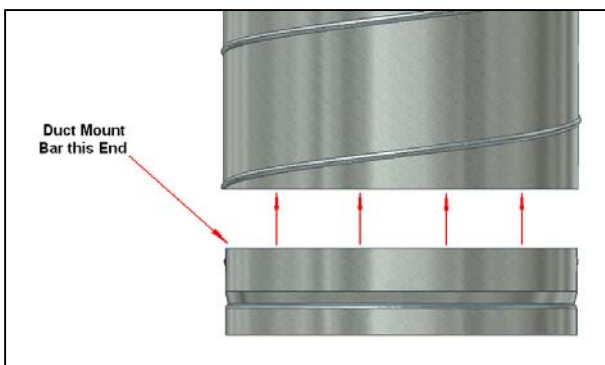
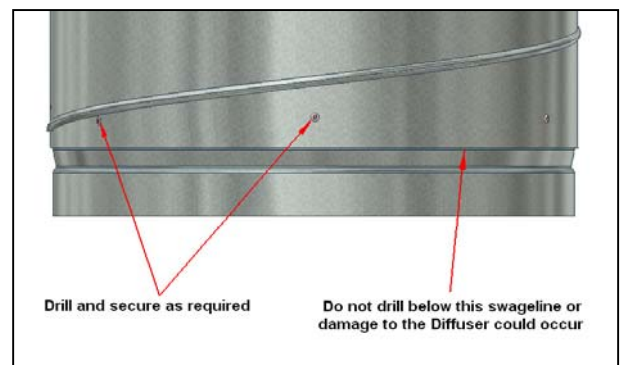

Figure 5: Insert Collar in Ductwork
Figure 5a: Secure Collar in Place
2. Slide the Collar up inside the ductwork until the end of the Ductwork is level with the top of the swage line (see figure 5). Secure the Collar to the Ductwork by pop riveting or screwing them together (figure 5a).